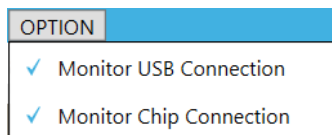

Figure 11: Option Configuration
- c. Communication Address: The default slave address is 01h, and the configurable communication address range is 00h to 7Fh. After changing this value, the new address should be used for the next communication. For devices with different “xxxx” codes, the default address may be different. The GUI automatically scans the address, though this function can be disabled by unchecking “Monitor Chip Connection” in the “OPTION” tab (see Figure 11).